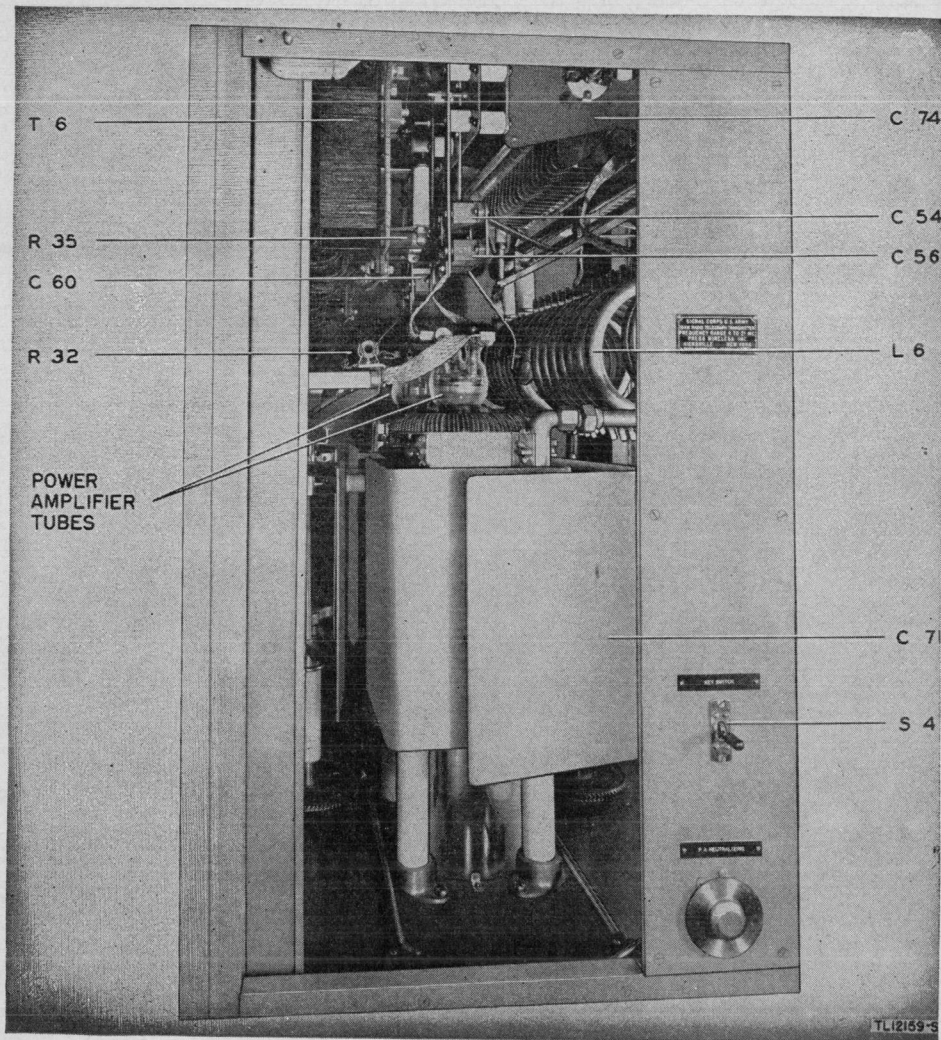

Figure 7. Power amplifier, front view through upper left door.
e. **POWER AMPLIFIER.** The power amplifier compartment is located in the upper section of the p-a unit. (See fig. 7.) Access to this compartment may be gained through any of the upper doors of this unit. This stage has a frequency range of 4 to 21 mc. The power amplifier incorporates an air circulating system for the purpose of preventing the p-a tubes from reaching a destructively high temperature during operation.